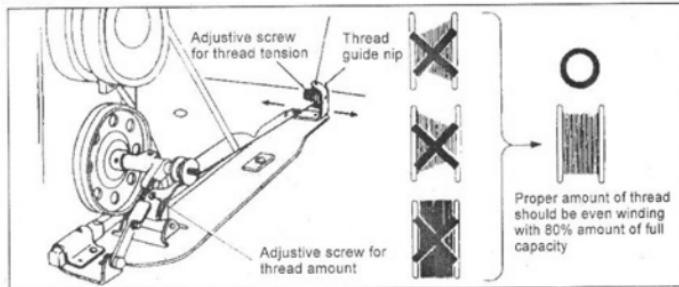

Fig.6
Pass the thread through the thread guide (6) from the thread stand, wind it few times anticlockwise on the bobbin and put the bobbin on the winder shaft (1). Switch on the motor and depress the treadle lightly to start the machine and by this winder as well. The winding amount (See Fig.6) is 80% of full capacity. It can be adjusted by loosening the screw (4) of the control lever (5) mounted on the disconnecting pin (3). When the winding is completed, using the knife mounted in the spring (2) cut off the thread end.
#### 2) Outside winder (Fig.6)